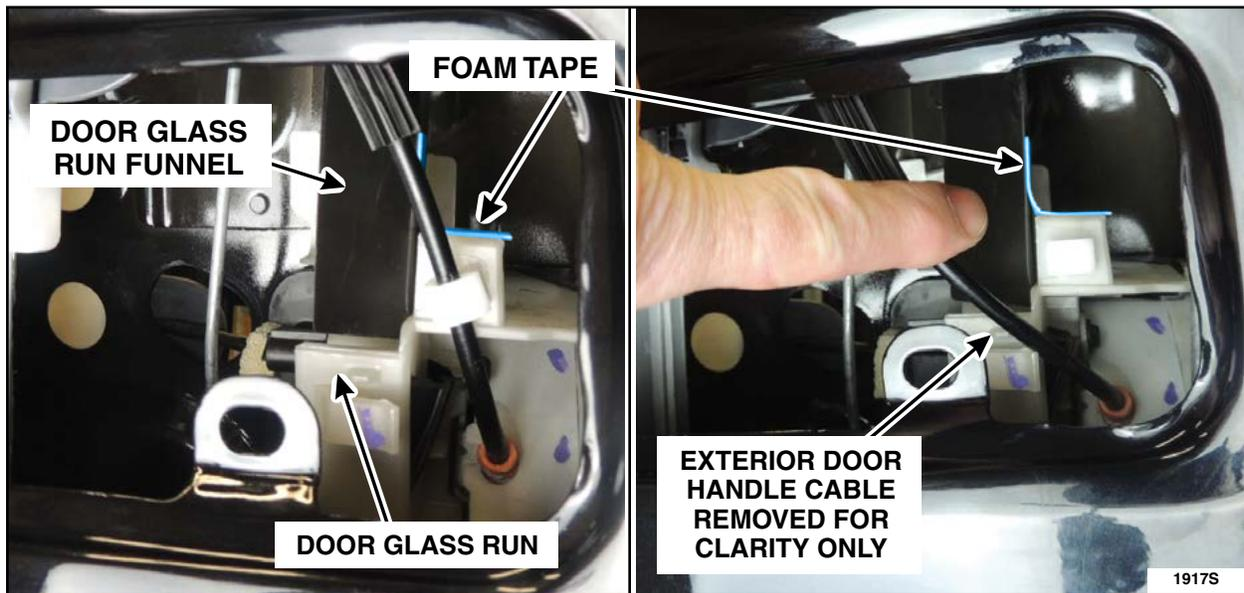

FIGURE 16
19. Using a clean shop towel and isopropyl alcohol clean the area where the Foam Tape will be applied, from any dirt, dust or debris, then install the Foam Tape in the location shown, from through the exterior door handle opening, to hold the funnel in place. See Figure 16.